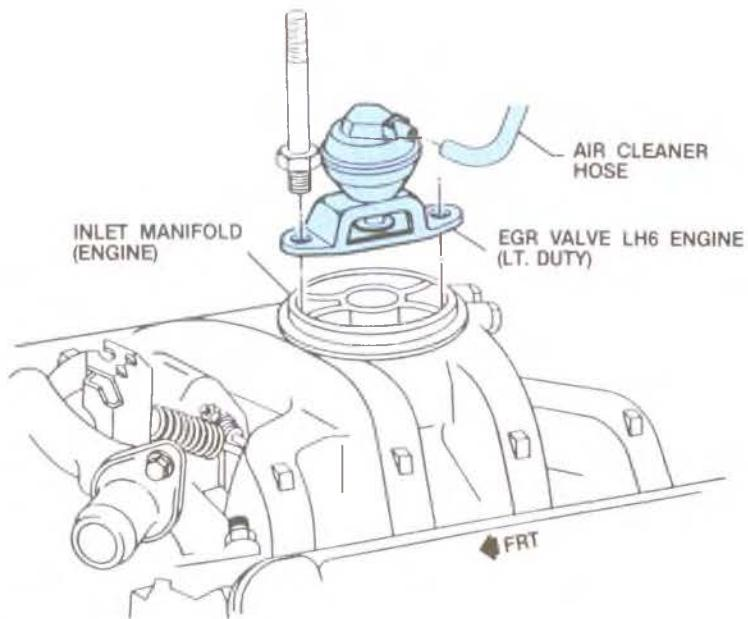

Figure 5-9, EGR Valve.
Spent gas is run through an EGR valve to the manifold, and then is part of the air intake (Figure 5-9). This is introduced into the combustion chamber. It takes up some of the volume of the incoming charge of air. When ignition takes place, the spent exhaust gases cannot partake in the combustion process, since they have already been used previously, so they add nothing. During the period of "rapid" combustion, the temperature increases quite rapidly. The temperature rise causes the gases to expand. The temperature in the chamber is much higher than the exhaust gases. The spent gases now take part in the process. They cannot add to the process because of lack of oxygen. So the spent or inert gas acts as a sponge and pulls heat into itself causing it to expand. As it does it absorbs heat of combustion and drops the temperature approximately 500°F. Carbon monoxide is not a significant emission factor with diesels. Hydrocarbons are controlled by the injection nozzles, pump timing and combustion chamber design. The EGR valve is used on the LH6 (C) engine only.